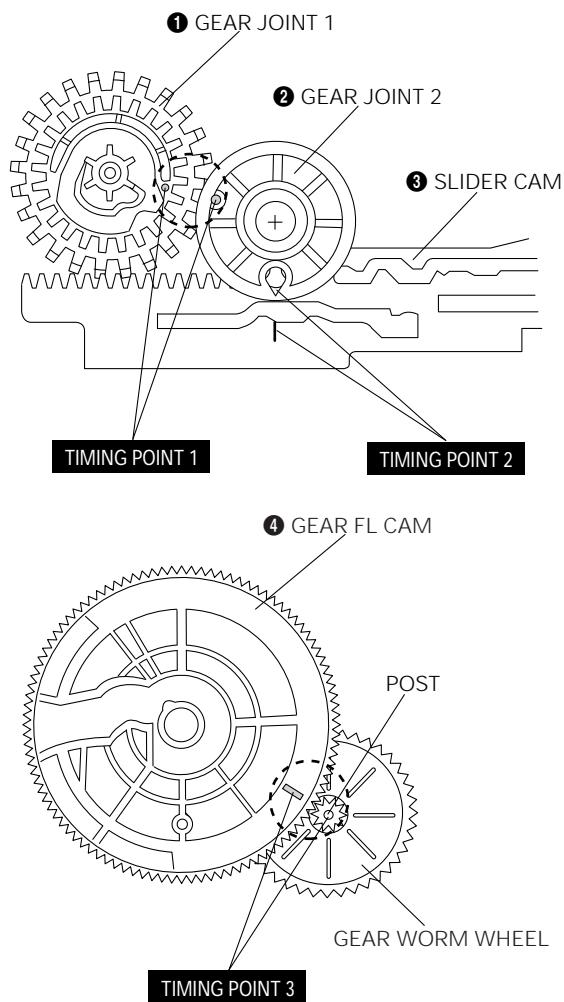

Fig. 1-10 Assembly of Gear FL Cam, Gear Joint 1,2
- 1) Be sure to align dot mark of Gear Joint 1 ① with dot mark of Gear Joint 2 ② as shown Fig. 1-10 (Refer to Timing Point 1), confirm the Timing Point 2 of the Gear Joint 2 ② and Slider Cam ③.
- 2) Align the Gear FL Cam ④ with the Gear Worm Wheel Post as shown detail drawing. (Refer to Timing Point 3)